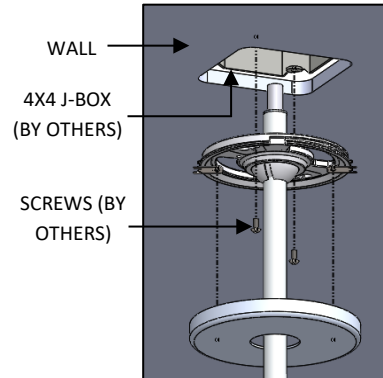

FIG. 8 - MOUNTING PLATE INSTALLATION
2. Mount the assembly to the junction box (by others) as in FIG. 8. if the fixture has a safety cable, attach this to a structural member.